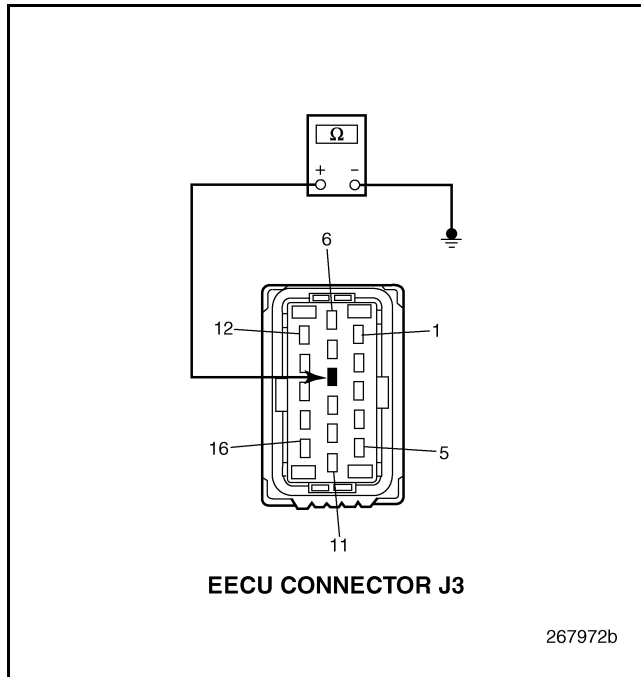

Figure 433
4. Check for continuity between EECU harness connector J3, pin 8 and a good ground (see Figure 433).